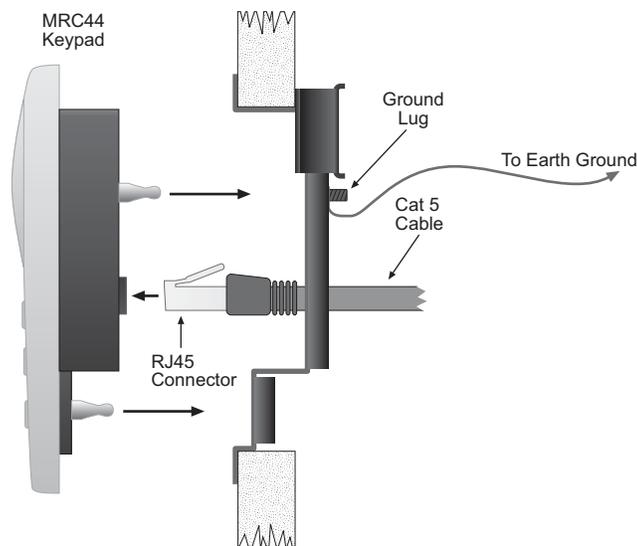

Figure 6 - Mounting and Installing the MRC44 Keypad
5. Firmly snap the MRC44 Keypad into the bracket that you have just installed (see **Figure 6**).